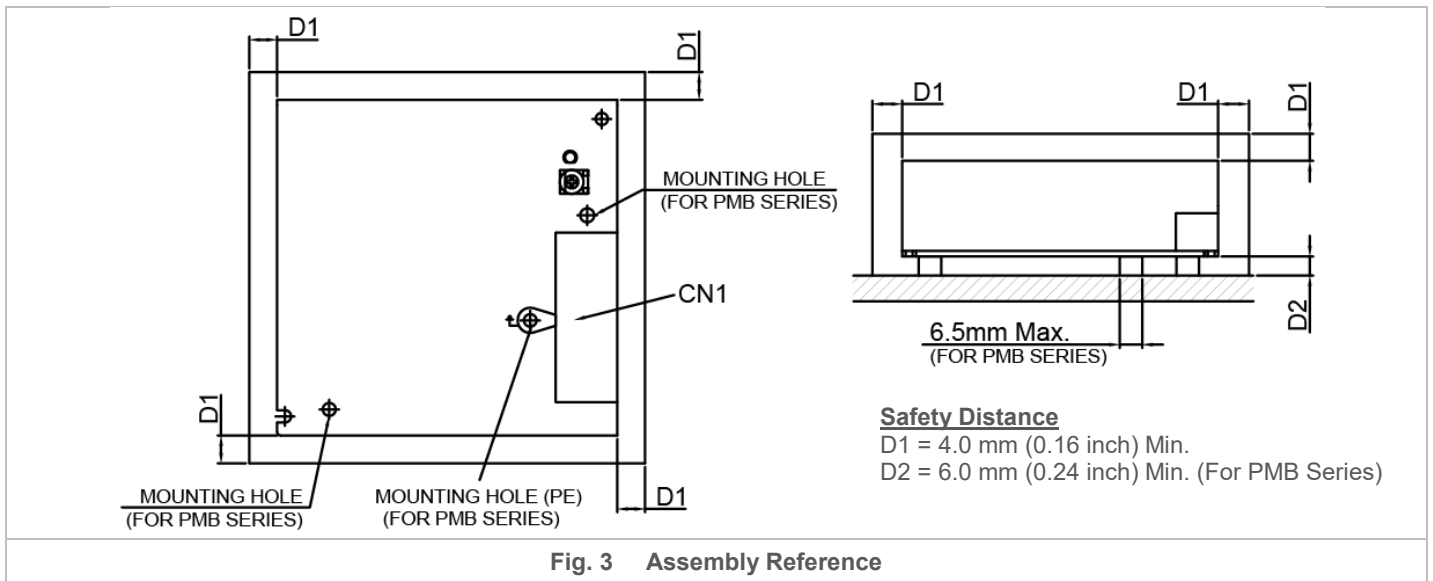

Fig. 3 Assembly Reference
- **PM□-12V35W1AA□ / PM□-12V35W1AG:** Use flexible cable (stranded or solid) of AWG No. 22-12. User should calculate and select the suitable wire specification (type/quantity/diameter) according to actual output current. The torque at the Connector shall not exceed 13Kgf.cm (11.23 lbf.in). The insulation stripping length should not exceed 0.275" or 7mm (Refer to Fig. 3).
- **For PMB Series: (Refer to Fig. 3):** The mounting holes on any mounting accessories for the device should be kept at a diameter of $< 6.5\text{mm}$ (0.26 inch). This is to ensure sufficient safety distance between the mounting screw and the components around the mounting holes on the PCBA. Therefore, the diameter of the mounting screw should be kept at $< 6.5\text{mm}$ (0.26 inch).